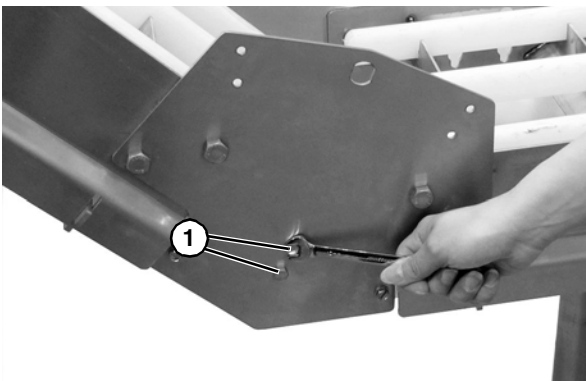
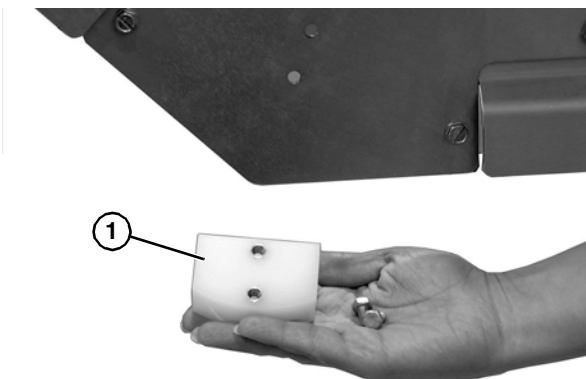

Figure 68
Figure 69
4. Remove two cap screws (**Figure 68, item 1**) and the inner belt return guide (**Figure 69, item 1**). Repeat on opposite side of the conveyor.